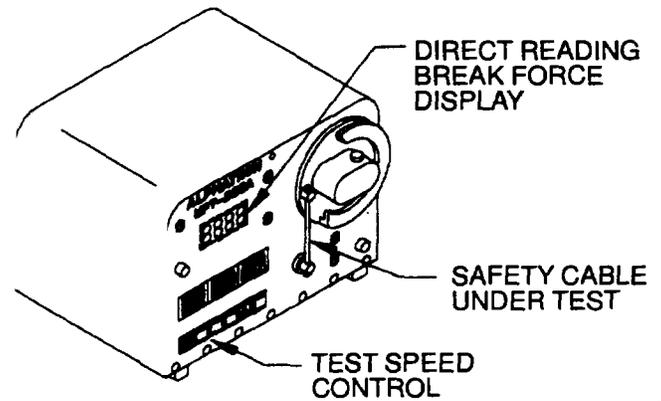

Figure 2-101. Electronic Safety Cable Pull Tester
(4) The safety cable should remain in place during application of the measured force. Apply approximately 2 lbs. force to the safety cable with your finger at the line marked "test area". If the safety cable touches either the side or bottom surface of the test fixture, the crimp is unacceptable and the tool indenter should be adjusted.
(5) Use of an electronic pull tester to verify safety cable tool indenter adjustment. (See figure 2-101). It may be required in some applications to pull test safety cable to destruction. If this is required, an electronic pull tester may be used in place of the calibration test fixture/ torque wrench method. The type of machine pictured in this manual will satisfy this requirement.